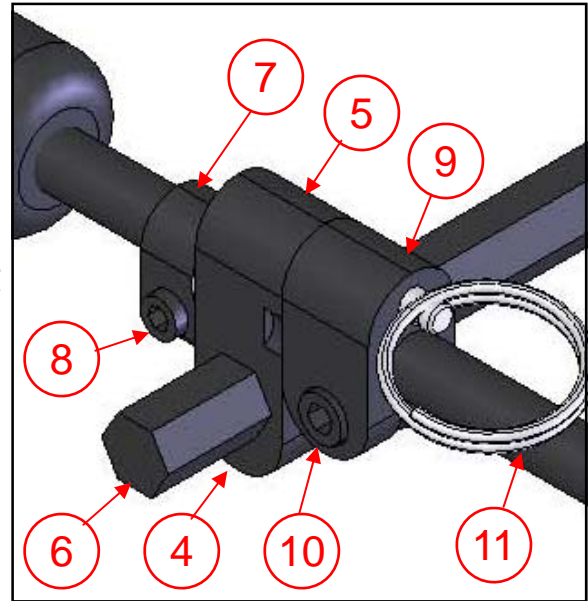

Figure 24C
1. Height: Loosen the Allen screw on the bracket (3). Slide the shoulder pads to the desired position, and retighten the screw.
2. Width: (Refer to Figure 24C) Loosen the set screw (4) on the bottom of the pivot pin receiver (5). Slide the receiver along the hex cross bar (6) to the desired width. Tighten the set screw. Repeat on opposite side.
3. Depth: (Refer to Figure 24C) Loosen the bar clamp (7) by loosening the Allen screw (8) on the side. Loosen the lock pin block (9) by loosening the allen screw (10) on the side. Slide the shoulder pad back/forth to the depth which provides the appropriate amount of anterior support. Align the lock pin block (9), with the plunger pin (which is inside